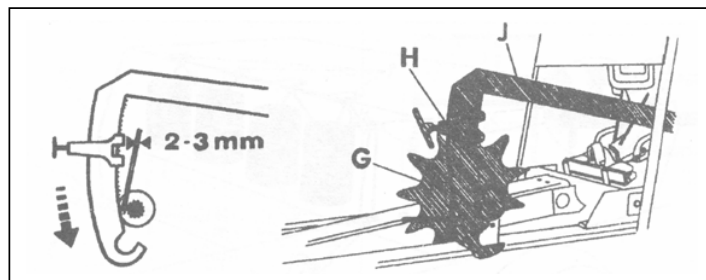

Fig. 23 Bale length regulating mechanism
- rotate the disc G (Fig. 23) until the arm of J switch moves to upper position, which will activate the drive of knotting mechanisms.
Bale length is regulated steplessly in the range of 0.3-1.3m by means of movable buffer H located on J arm (Fig. 23). When the buffer H is moved upwards, the bale length is increased. In order to assure uniform bale length, tighten the pressing screw firmly to prevent undesirable buffer movement.